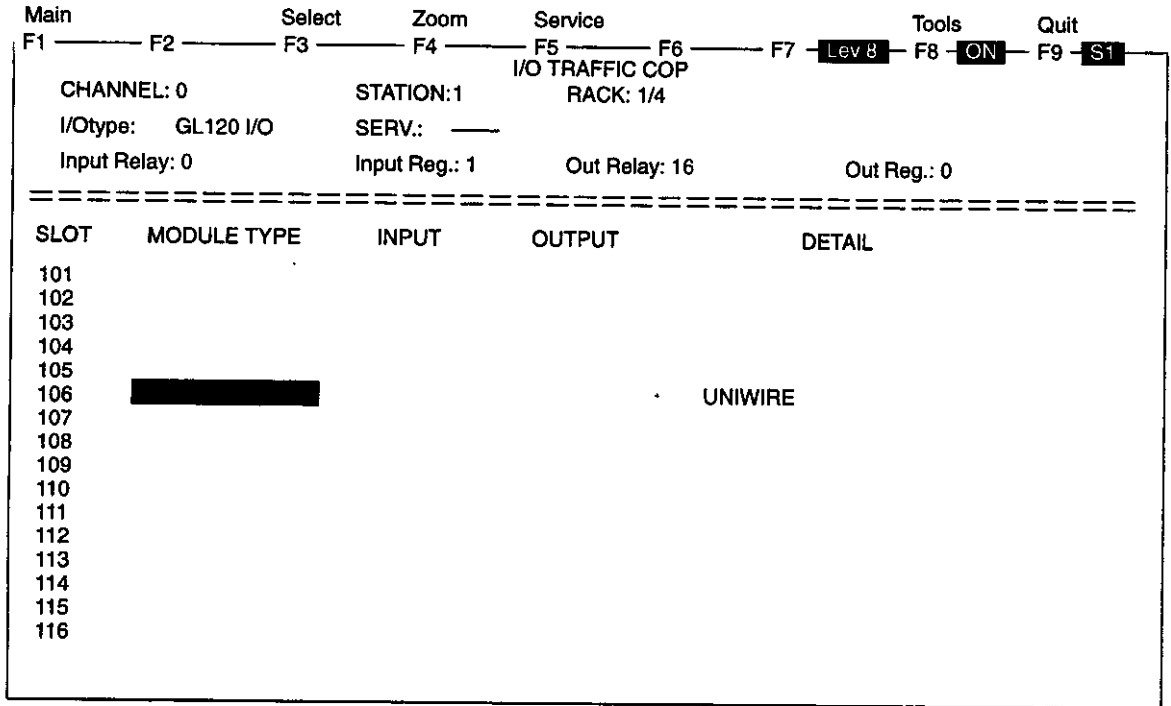

Figure 4.4 I/O Map
- d) Select the channel and rack numbers. Move the cursor to the slot number for allocation. (*Figure 4.4*) If the 120CRD21110 is already installed, the Module model will be displayed in the right-hand details column.